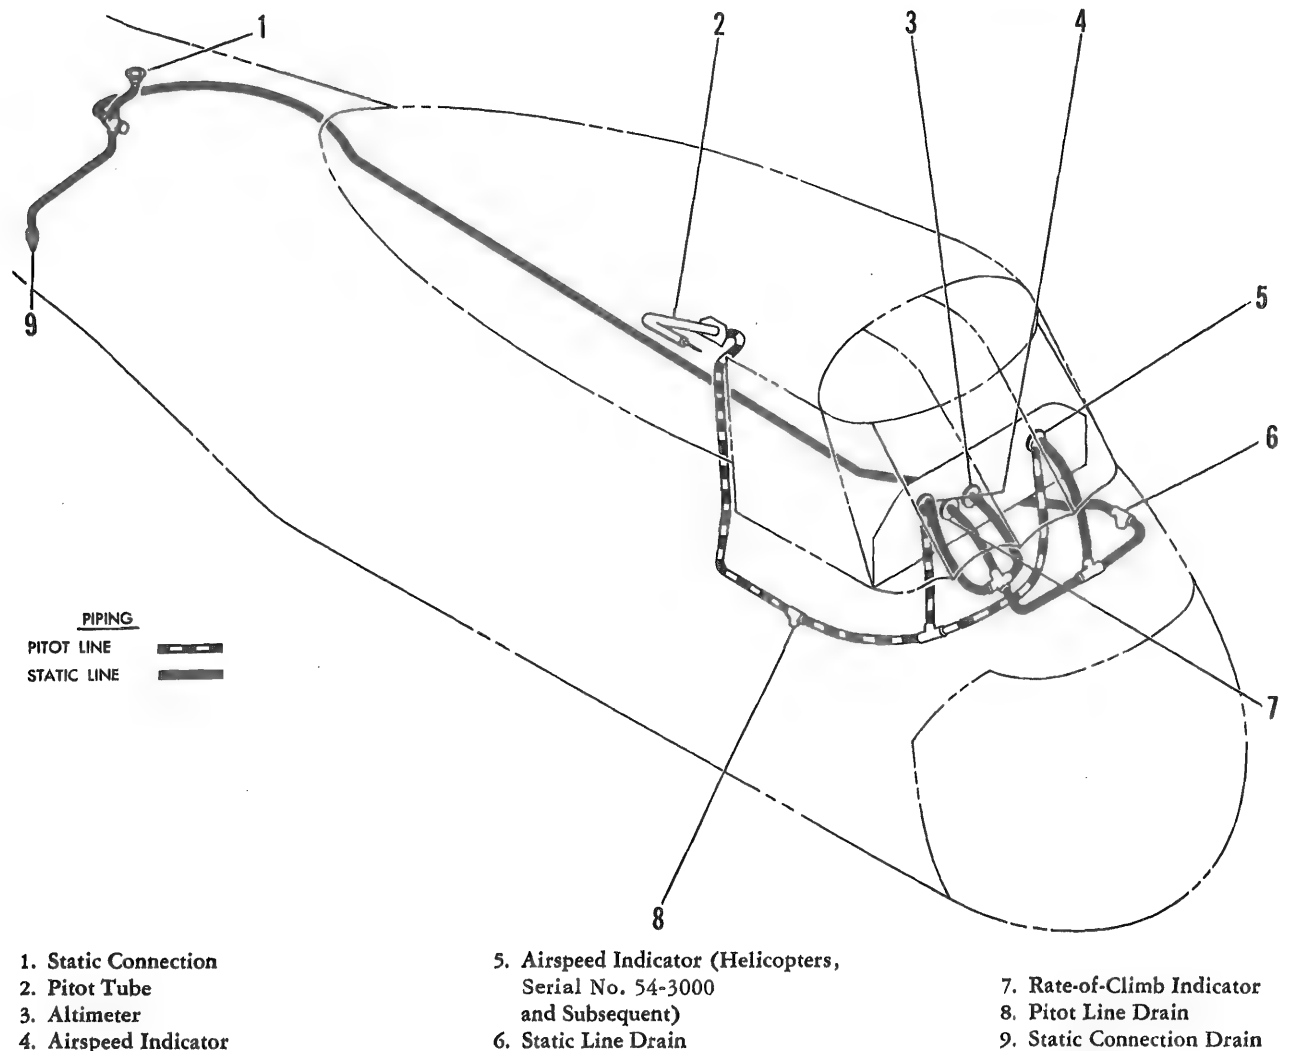
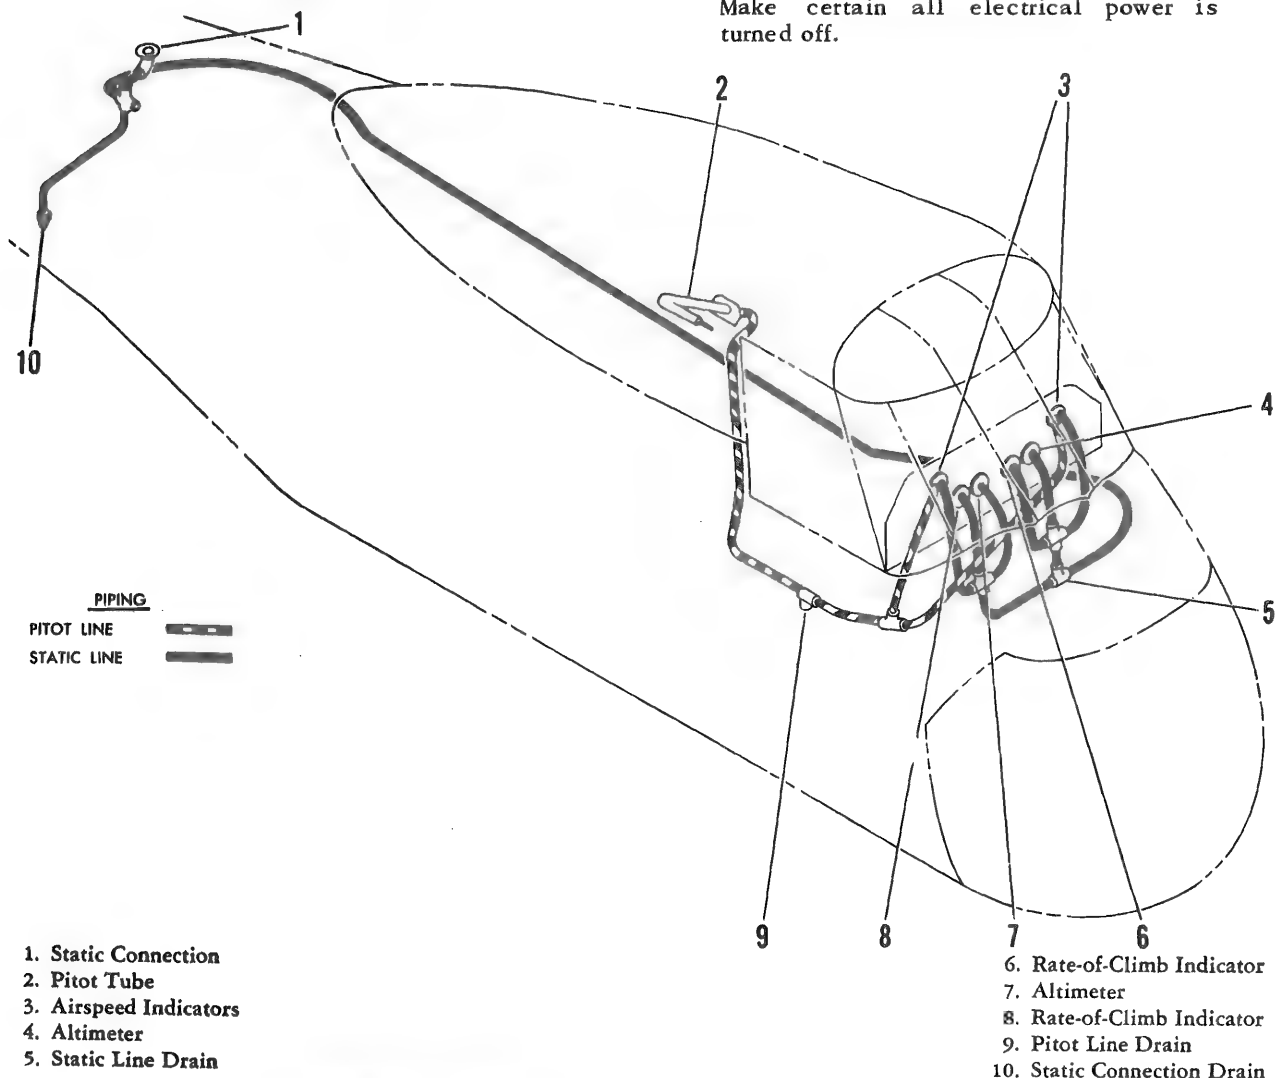

Figure 8-1. Pitot-Static System Diagram – Aircraft Serial No. Prior to 57-1742
Figure 8-2. Pitot-Static System Diagram - Model CH-34C Serial No. 57-1742 and Subsequent
8-2. DESCRIPTION. (See figures 8-1 and 8-2.) The pitot-static system consists of a pitot pressure system and a static pressure system.
8-4. DESCRIPTION. (See figures 8-1 and 8-2.) The pitot pressure system consists of a pitot tube, tubing, and hoses extending to the airspeed indicators. The pitot tube is mounted on the end of a support that extends from a base assembly mounted
8-10. DESCRIPTION. (See figures 8-1 and 8-2.) The static pressure system consists of a static pressure connection, tubing and hoses extending from the connection to the barometric altimeter, airspeed indicator, and rate-of-climb indicator. The static pressure connection consists of a group of seven holes in the skin which open into a threaded flange and gasket riveted to the inner surface of the skin. The pressure connection is located on top of the helicopter above the electronics compartment.
b. Disconnect tubing from static line drain (6, figure 8-1, or 5, figure 8-2) at left side of cabin forward bulkhead and remove drain.
d. Disconnect tubing from tee below static connection (1, figure 8-1, or 1, figure 8-2) at upper right side of electronics compartment.
f. Remove tee and tube from static connection (1, figure 8-1, or 1, figure 8-2).
8-13. MAINTENANCE. Drain off moisture daily which collects in static system at static connection drain (9, figure 8-1, or 10, figure 8-2) mounted on right side of electronics compartment aft bulkhead, and static line drain (6, figure 8-1, or 5, figure 8-2) on left side of cabin forward bulkhead. Check that openings at static connection are free of dirt.